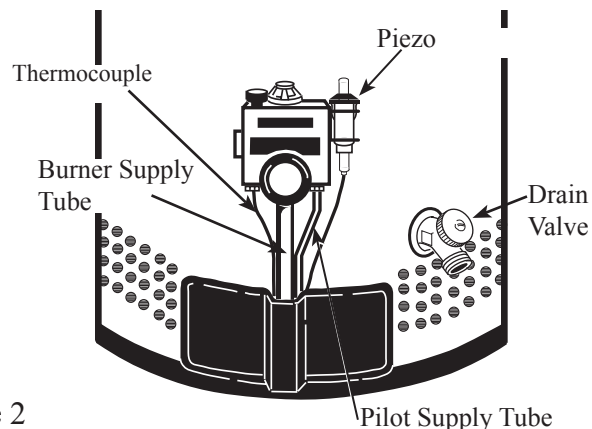

Figure 2
2. **DRAINING THE WATER HEATER:** Shut off the inlet water supply to the water heater. Connect one end of a garden hose to the water heater's drain valve and route the other hose end to a drain or suitable draining area. Open a hot water faucet to allow air to flow into the water heater tank then open the water heater's drain valve. See Figure 2.
Locate the piezo wiring and carefully pull apart the connection from the piezo generator. Using a 3/8" open-end wrench, disconnect the thermocouple from the water heater's combination gas control. Using a 7/16" open-end wrench, disconnect the pilot supply line from the combination gas control. Using a 3/4" open-end wrench, disconnect the burner supply tube from the combination gas control. See Figure 2.